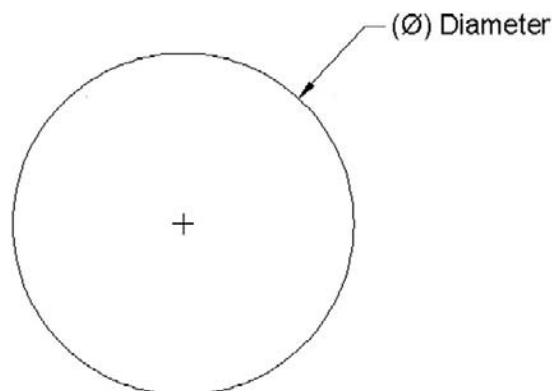

FIGURE 6.4
This is a dimension that measures the diameter of a circle or an arc (Figure 6.4).
- Step 1.** Create a small to medium size circle, as seen in Figure 6.4. Then begin the Diameter Dimension command via any of the previous methods.